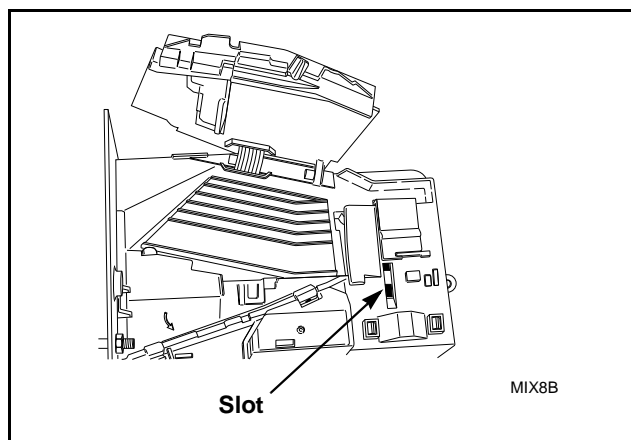

Figure 8
- (11) Place clip, installed on spring, in slot on coin drop. Refer to *Figure 8*.